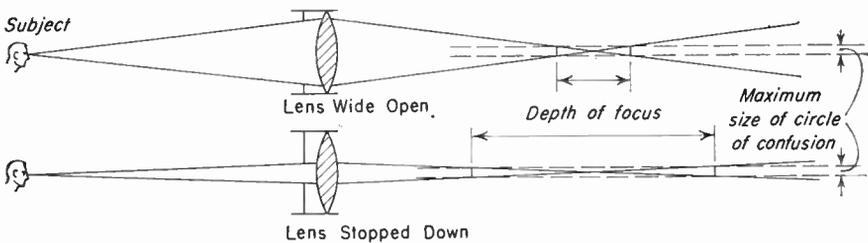

Fig. 5-27. Why depth of focus is improved by stopping down the lens.
**Diaphragm opening and depth of field.** The diagram in Fig. 5-27 also indicates the difference that diaphragm opening makes in the depth of focus. When this particular lens is used wide open ( $f/3.5$ ), the depth is